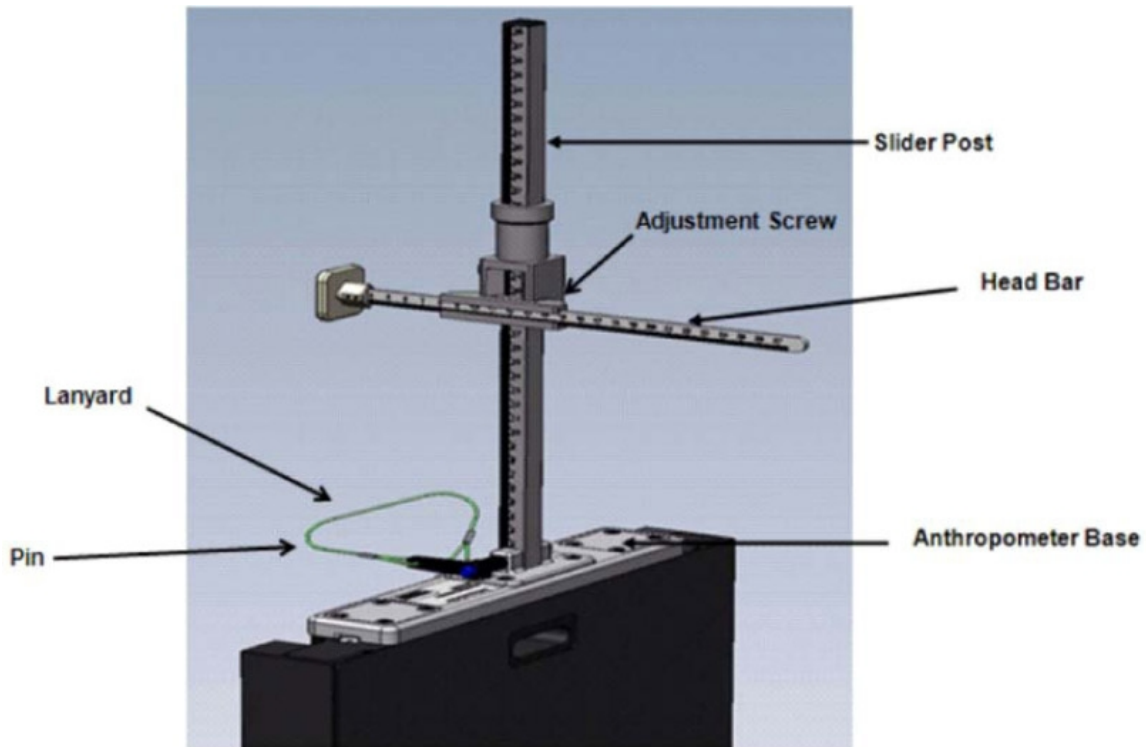

Figure 3. Final Assembly of Anthropometer Base on CDR Seat
- 2.7.8 Insert Head Bar into slot on Slider Post (loosen adjustment screw if necessary to insert Head Bar). Refer to Figure 3.